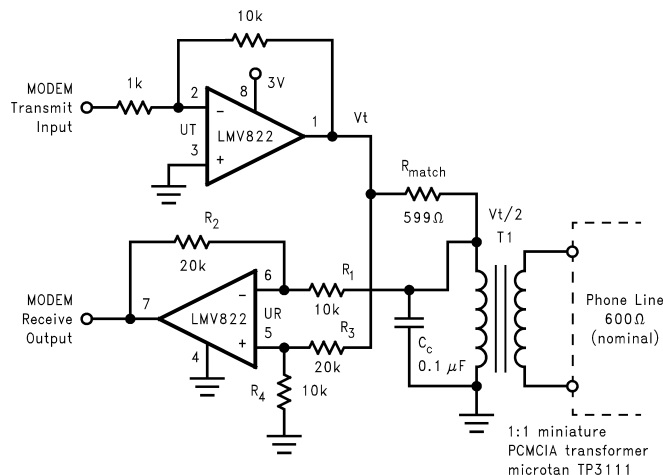

Figure 39. Telephone-Line Transceiver for a PCMCIA Modem Card
The telephone-line transceiver of Figure 39 provides a full-duplexed connection through a PCMCIA, miniature transformer. The differential configuration of receiver portion (UR), cancels reception from the transmitter portion (UT). Note that the input signals for the differential configuration of UR, are the transmit voltage (V_T) and $V_T/2$. This is because R_{match} is chosen to match the coupled telephone-line impedance; therefore dividing V_T by two (assuming $R1 \gg R_{match}$).